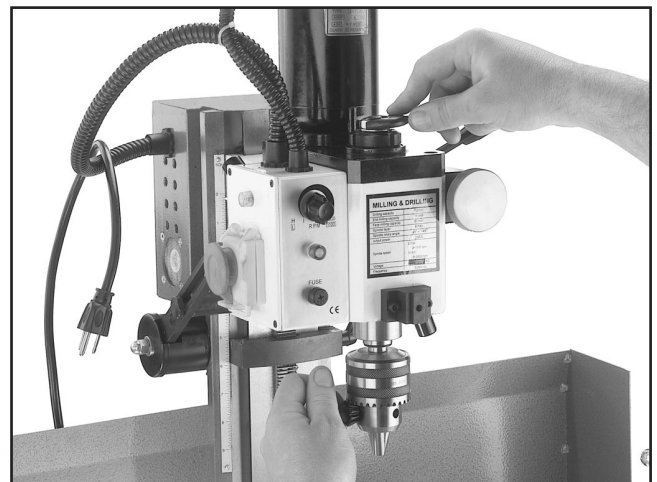

Figure 9. Removing mill/drill spindle lock nut.
3. Use a 19mm wrench, as shown in **Figure 9**, to remove the spindle draw nut.